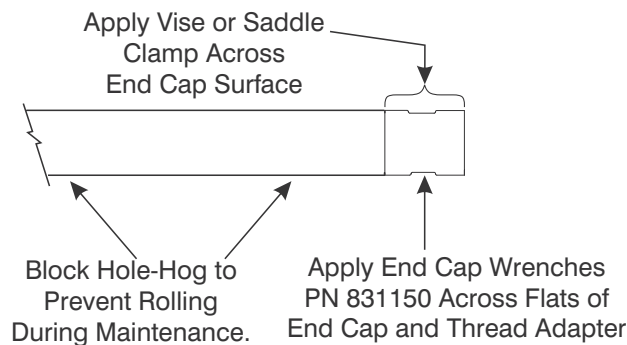

Figure 11-28. Secure Hole-Hog for Whip Hose Installation
1. Place on a clean flat work bench: the Whip Hose (10), the Quick Disconnect Fitting (11) and Gasket, assembled as described in Section 11.7.2.
- a. When using the End Cap Wrench, grip the Hole-Hog across the wrench flats of the End Cap (8) as shown in Figure 11-28.
- b. When using a vise or saddle clamp, grip the Hole-Hog across the raised area of the End Cap (8) on either side of the wrench flats as shown in Figure 11-28.
4. Thread the female hex fitting of the Whip Hose (10) onto the threads of the Adapter. Tighten the fitting finger tight.
6. Fit an 1-1/16-inch open-end wrench behind the exposed Thread Adapter. Brace the wrench against the edge of the End Cap and pry the stem outward with enough force to prevent the Valve Stem from pulling back into the End Cap as shown in Figures 11-28 and 11-26.